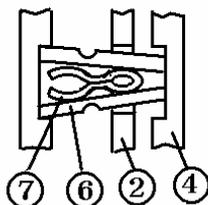

Fig.5-15
The synchro-hub is composed of the hub(2), block pin(3),synchro-ring(4),thrust piece(6),and spring(7).Synchro-ring(4)has a conical friction surface on its circumference.Block pin(3) prevents hub(2) from sliding until the torque, imposed upon the pin due to the speed differential caused when shifting gears,disappears. Thrust piece(6)is composed of an outer split pin and an inner and is held together as one unit by the expansion force of the spring. It has a tapered shape as shown in Fig.5-15